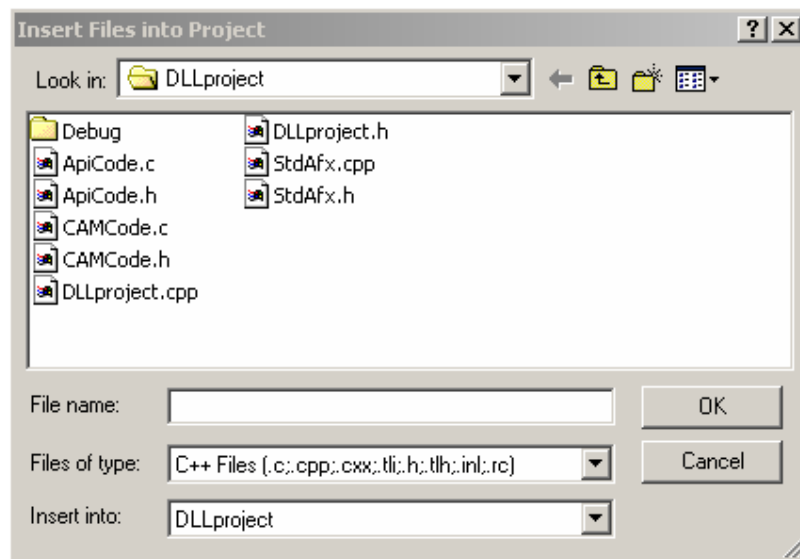

Figure 7: Adding the AD2 C-code files to the project
10. In Visual C++ go to Project/Add To Project/Files... in the menus to get the window shown in figure 7. Select the 4 files generated by AD2 and click on “OK”.